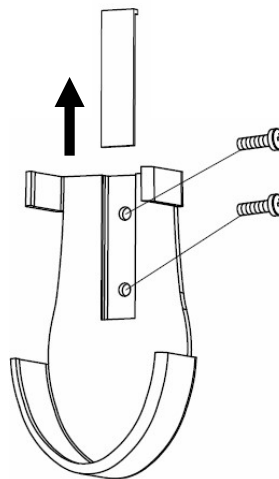

Fig. 14a
2. Remove the screw cover and install the holder using the 2 screws and re-install the screw cover. (Fig. 14a).